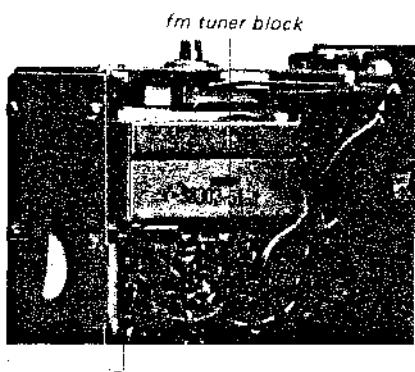

Fig. 2-15
4. Remove the screws ($\Phi B 2.6 \times 5$) marked (R) in Fig. 2-15.